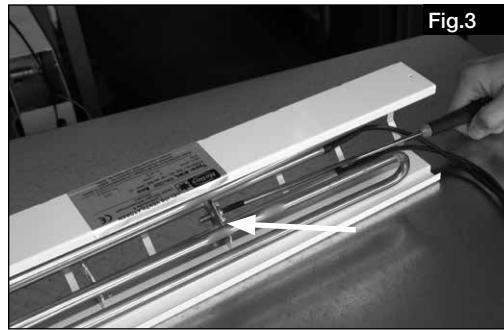

Fig.3
2. Loosen the heating element fixing screws (Fig.3).